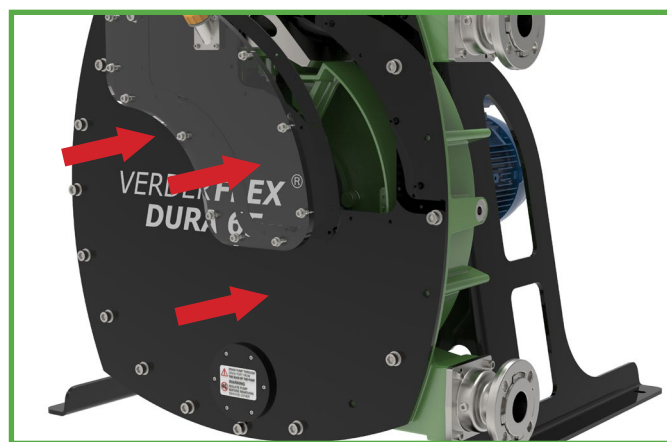

Figure 7 Fitting the Inspection Window
3. Mount the window unit, with the bolts and gasket, over the front cover, aligned as shown in Figure 7.